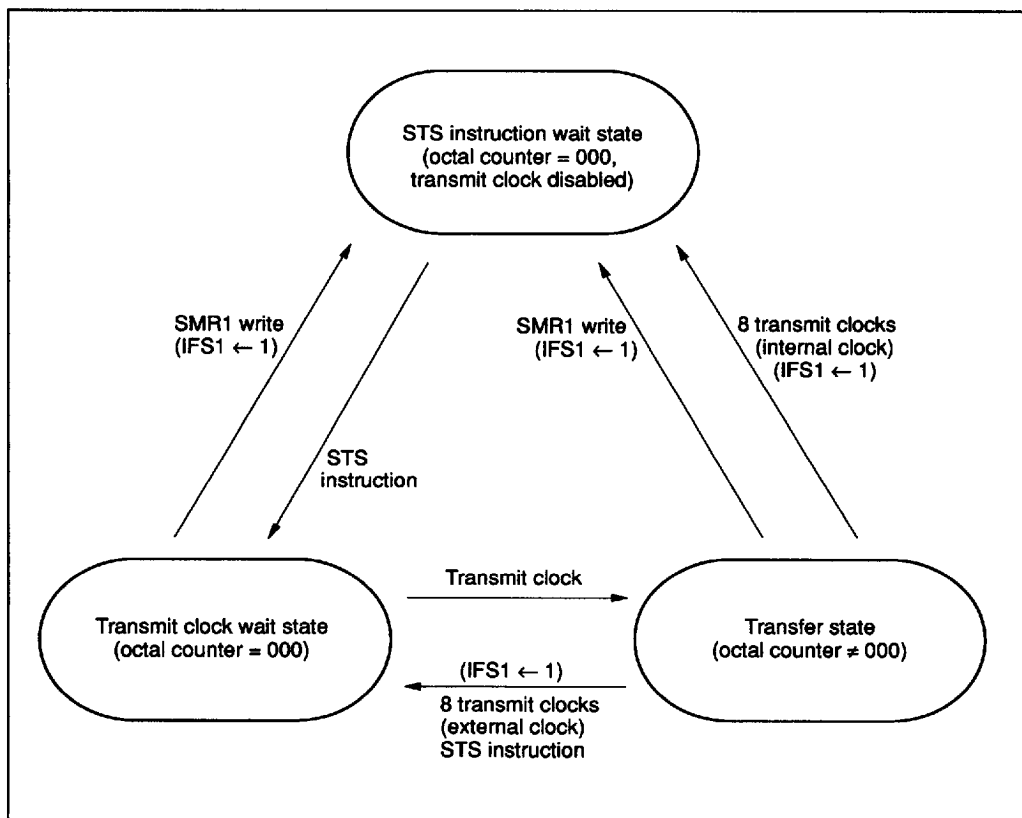

Figure 47 Serial Interface 1 Mode Transitions
**Serial Interface 1 Operation:** Three operating modes are provided for serial interface 1; transitions between them are shown in figure 47.